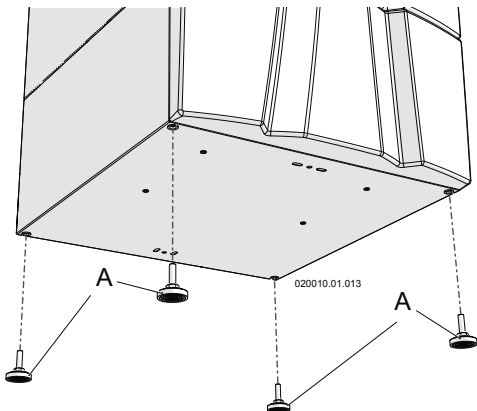

Figure 6-2 - Levelling feet
- ☞ install the adjustable feet "A" to level the appliance as per figure 6-2.